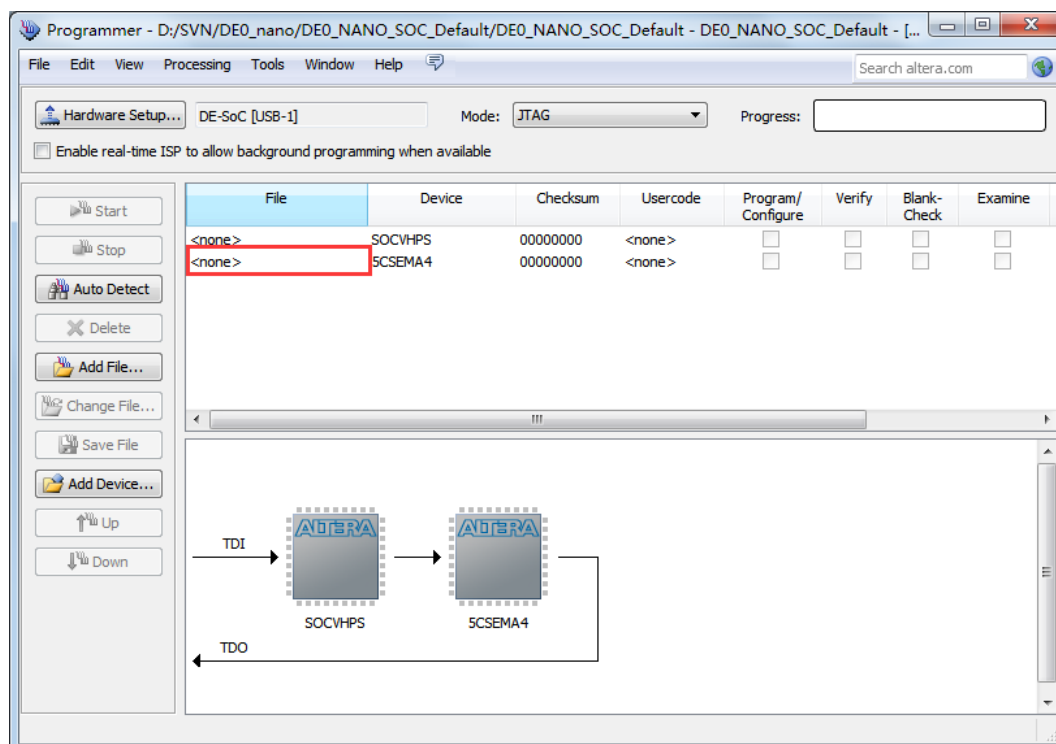

Figure 8-7 Two devices are detected in the Quartus II Programmer
3. Click **Auto Detect** and then select the correct device(5CSEMA4). Both FPGA device and HPS should be detected, as shown in **Figure 8-7**.
4. Double click the red rectangle region shown in **Figure 8-7** and the **Select New Programming File** page will appear. Select the .jic file to be programmed.
3. Click **Auto Detect**, and then select correct device, both FPGA device and HPS will detected. (See Figure 8-7)
4. Double click the red rectangle region shown in Figure 8-7, and the **Select New Programming File** page will appear. Select the correct .jic file.